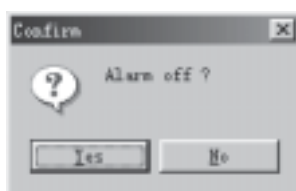

Fig. 7-5 Alarm Off
(2) Alarm Off: Double click the top of the record to cancel the alarm. Then click the $i^{\circ}Yes; \pm$ button in the dialogue block shown at the same time as in Fig. 7-5.